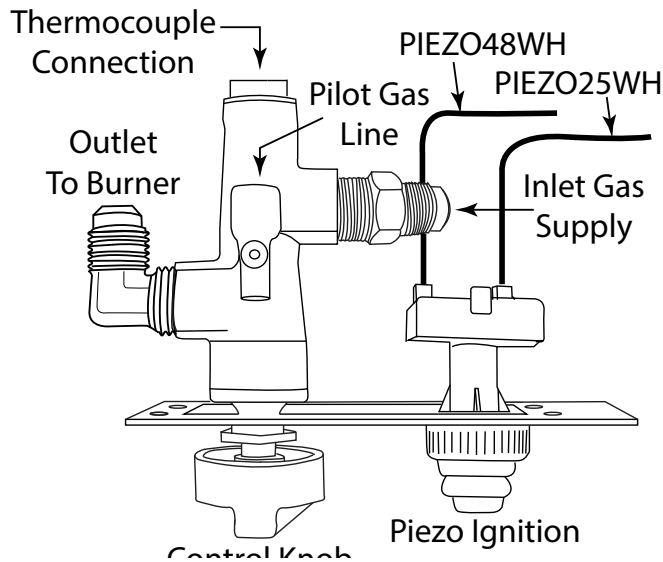

**Fig. 7** TPSI control panel mounting plate.
3. The primary gas shut-off (not supplied) will require a ½" male flared fitting to enable connection of the stainless steel flex gas line supplied with the fire pit (see Fig. 7 page 9).